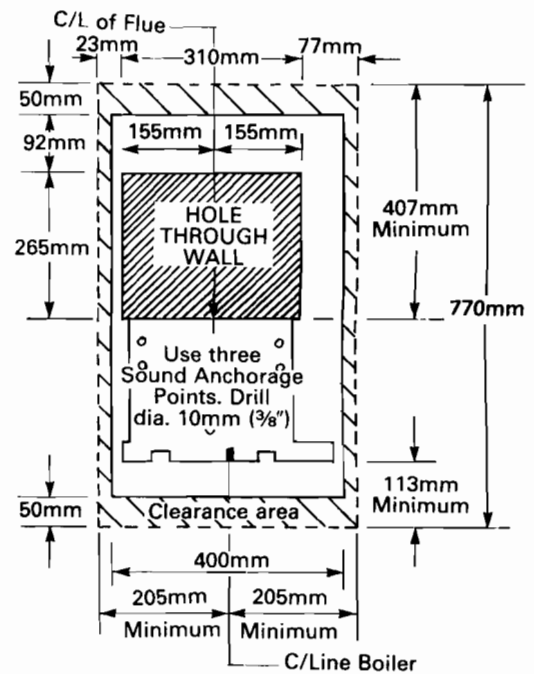

Fig. 3. Wall Mounting Plate Requirements WM 38/3 RS
- (ii) For WM 38/3 RS mark off the position at the centre line of the flue and mark off 155mm at either side (the centre of the flue opening is indicated by a mark on the top edge of the wall mounting plate (see Fig. 3).